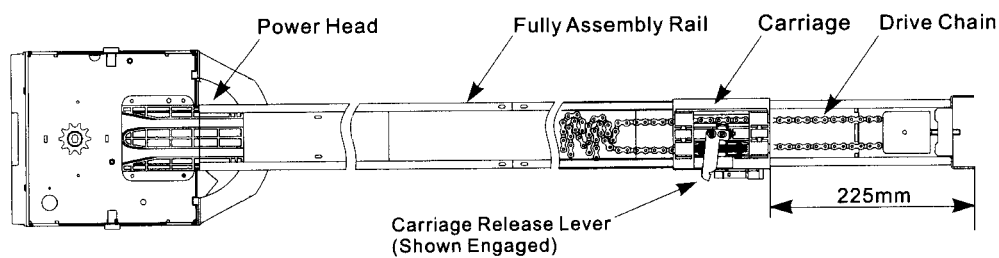
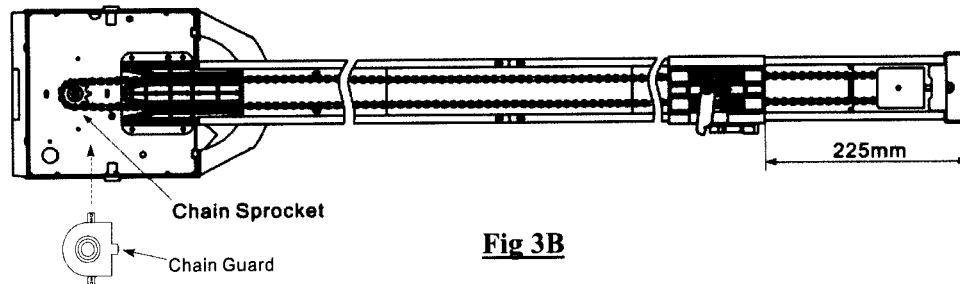

Fig 3A
Fig 3B
- Engage the Carriage into the Drive Chain lock piece and position the front edge of the Carriage approx 225mm from the Garage Door end of the Drive Rail. (Fig.3A)
- Locate the portion of the Drive Chain nearest to the Power Head (Fig.3A) and extend it over and around the Chain Sprocket so that it is engaged onto the teeth of the Chain Sprocket. (Fig.3B)
- Fit the Chain Guard to the Power Head with the 2 screws provided (Fig.3B)